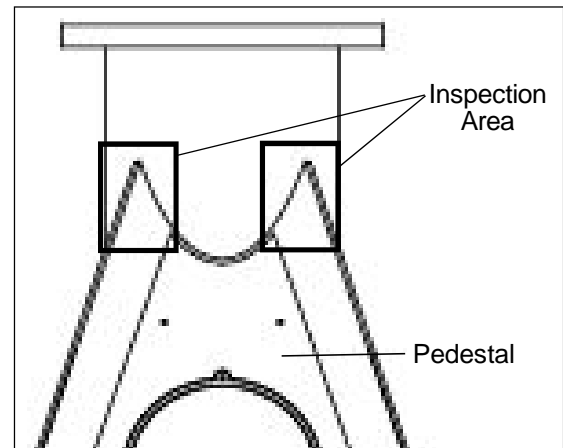

Figure 4— Inspection Area
3. Visually inspect the pedestal for any evidence of cracks. Especially look around the areas at the top of the gussets where they taper on to the pedestal tube (refer to Figure 4). Look for any cracks that are visible in the welds, any damage or cracks in the paint, lines of rust indicating a crack, or any distortion of the parts. Also visually inspect the rotation bearing for loose or missing fasteners.